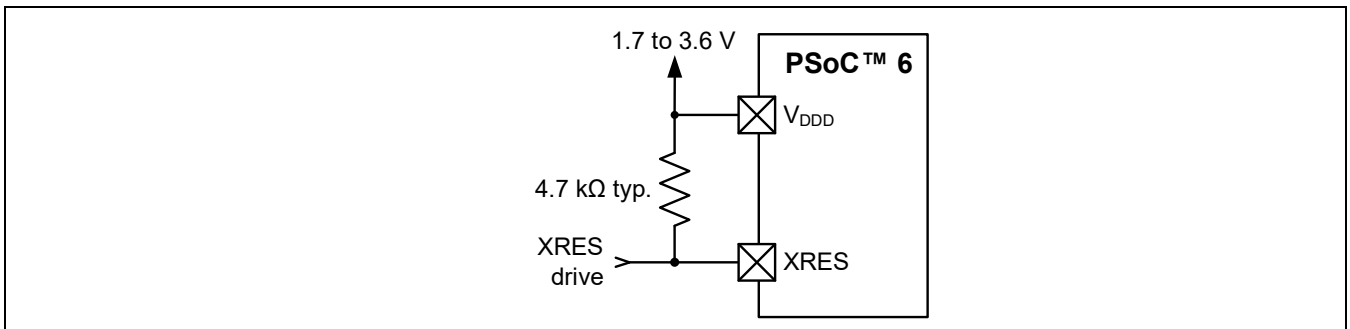

Figure 5 XRES connection diagram
- External reset dedicated pin (XRES) to reset the device using an external source. The XRES pin is active low. It can be connected either to a pull-up resistor to V_{DD} , or to an active drive circuit, as **Figure 5** shows. If a pull-up resistor is used, select its value to minimize current draw when the pin is pulled low; 4.7 kΩ to 100 kΩ is typical.